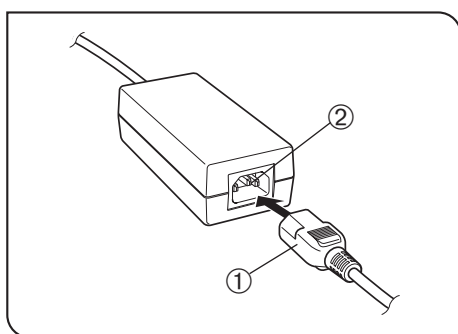

Fig. 41
(Figs. 41 to 43)
Operation Using the AC Adapter (Fig. 41)
1. Insert the connector ① of the power cord firmly into the input connector ② of the AC adapter (Fig. 41).